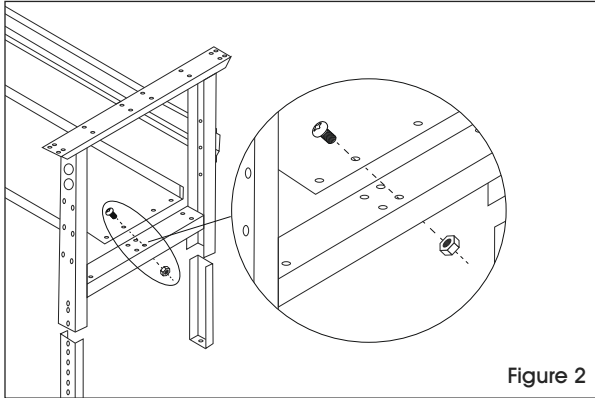

Figure 2
- Place lower shelf (4) across braces of legs. Attach lower shelf using four nuts and bolts. Now, fully fasten hardware placed in step 3. (See Figure 2)
- To attach tabletop (5) to frame assembly, place tabletop on a smooth, non-marring surface with top side facing down.